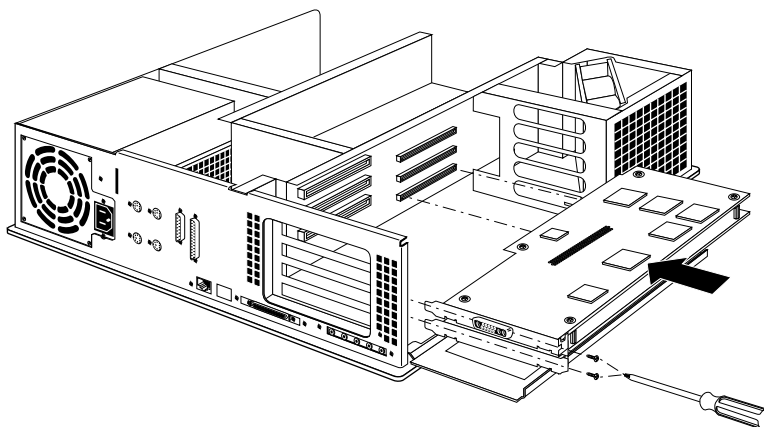

Figure 8-7 Replacing the Graphics Board Set
6. Position the replacement board set in the lowest available slot, as shown in Figure 8-7.
- Align the metal extensions on the left of the board set with the slots on the chassis. At the same time align the right edge of the board set with the metal grooves on the right of the chassis, as shown in Figure 8-7.
Note: Figure 8-7 shows an XZ graphics board set. If you have an Extreme graphics board set, there will be three screws to insert and tighten.